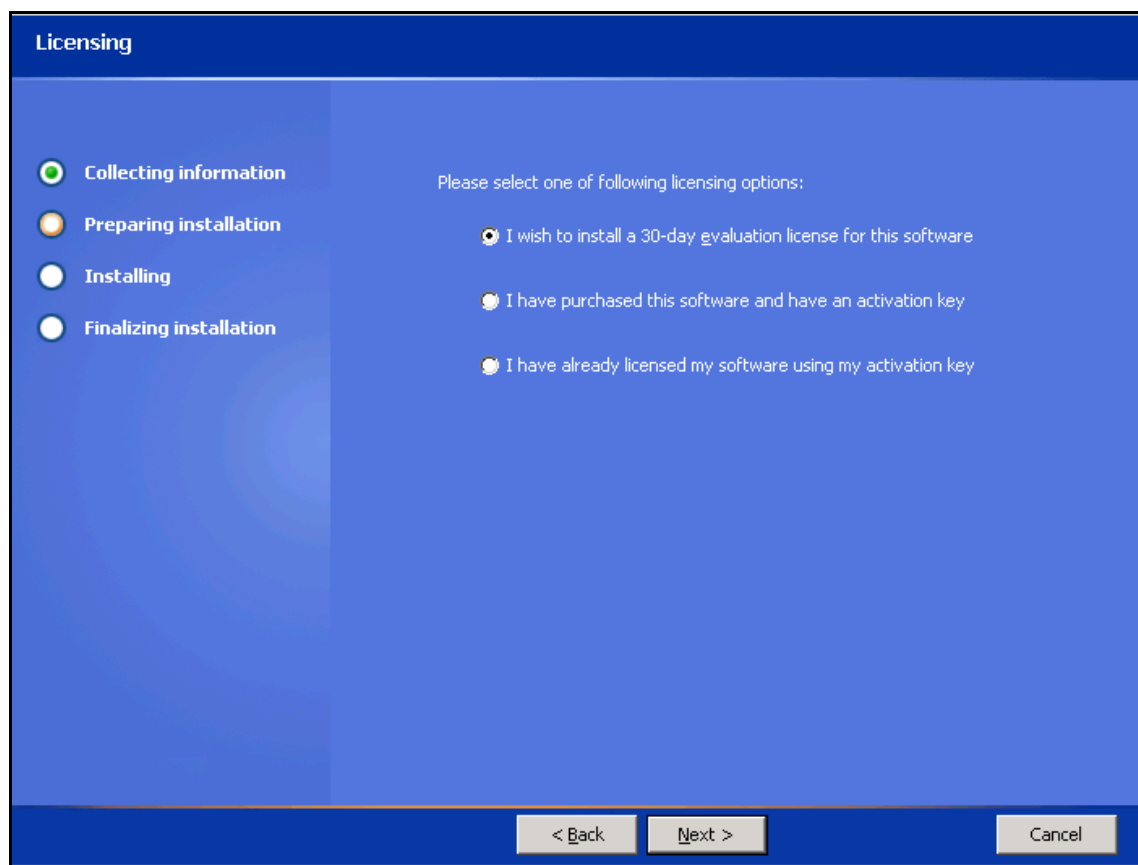

Figure 7 – Licensing screen
13. Click on the **Next** button to accept the default password. The **Licensing** screen (Figure 7) appears.